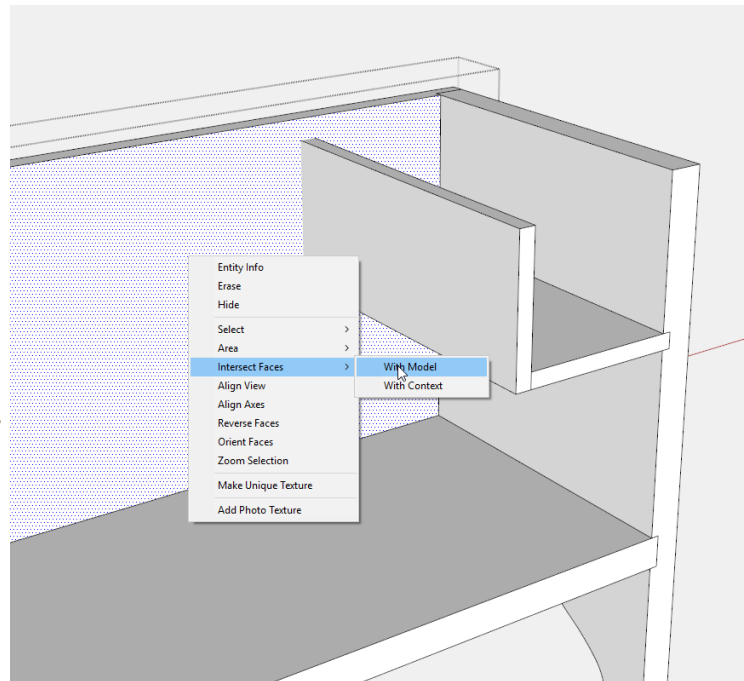

Figure 23. Use Intersect faces to show location of the dado and groove
Step 8 The Front and Back captures the Till Front and Bottom with a 3/16-in. shallow dado and groove. With the Front still hidden, select the Back for editing and then click to select the inside face of the Back. This is shown in Figure 23.